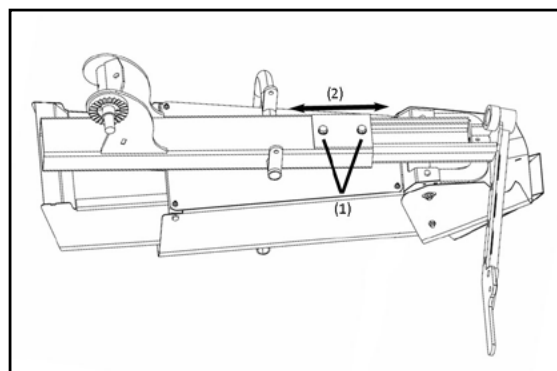

Figure 16 - Adjust Spinner Height
- d. Loosen hardware on chute lock plate (1) indicated in Figure 16.